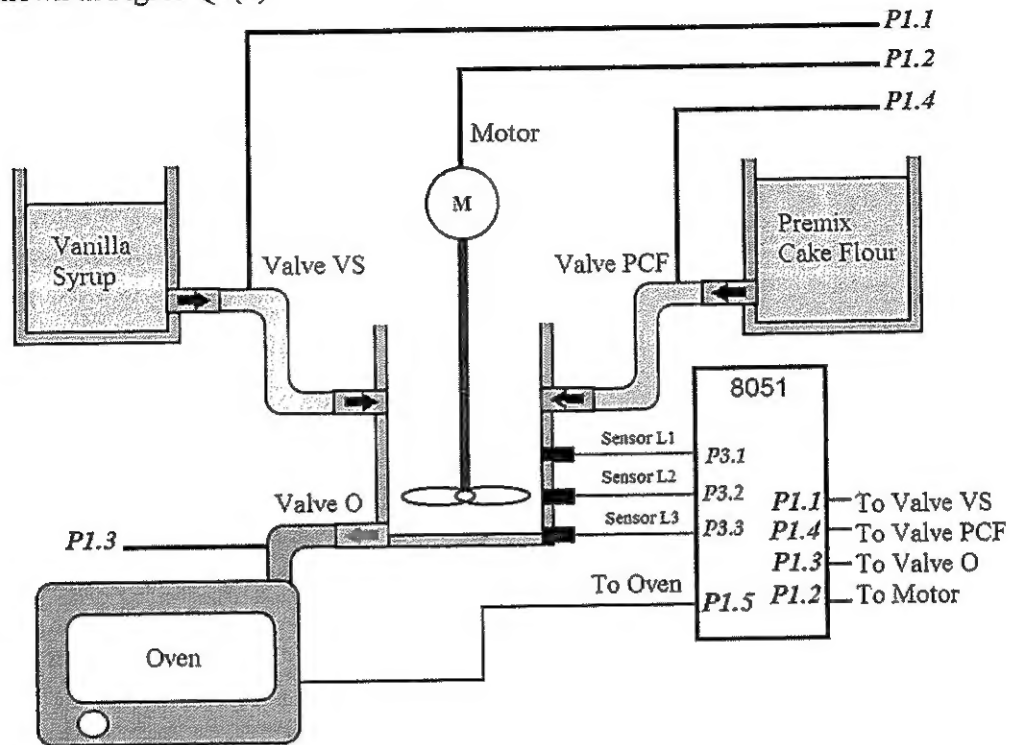

Figure Q5(b)
- (b) An 8051 microcontroller based *Automated Vanilla Cake Mixer-Baker System* is shown in Figure Q5(b).